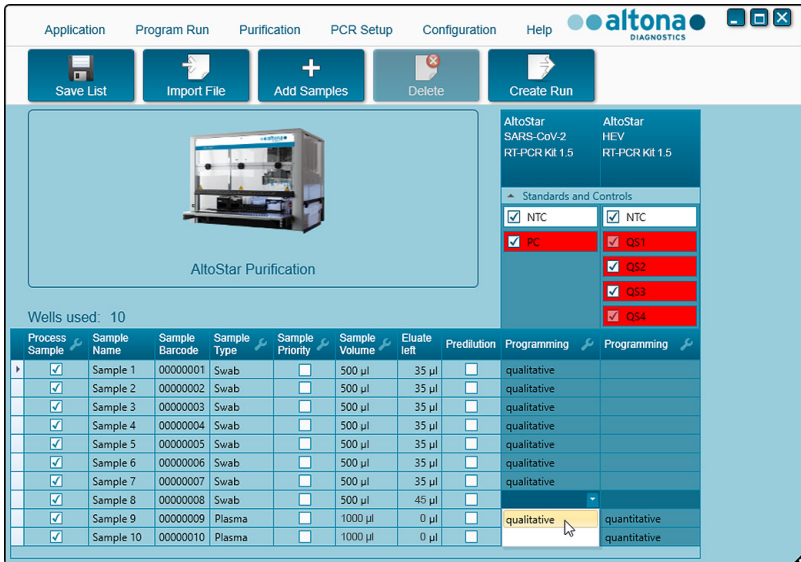

Figure 7: Programming Screen: PCR Assay Assignment
11. Assign the AltoStar® SARS-CoV-2 RT-PCR Kit 1.5 assay to specific samples by clicking in the cell which is in the row of the respective sample and in the column of the **AltoStar® SARS-CoV-2 RT-PCR Kit 1.5** (see Figure 7).